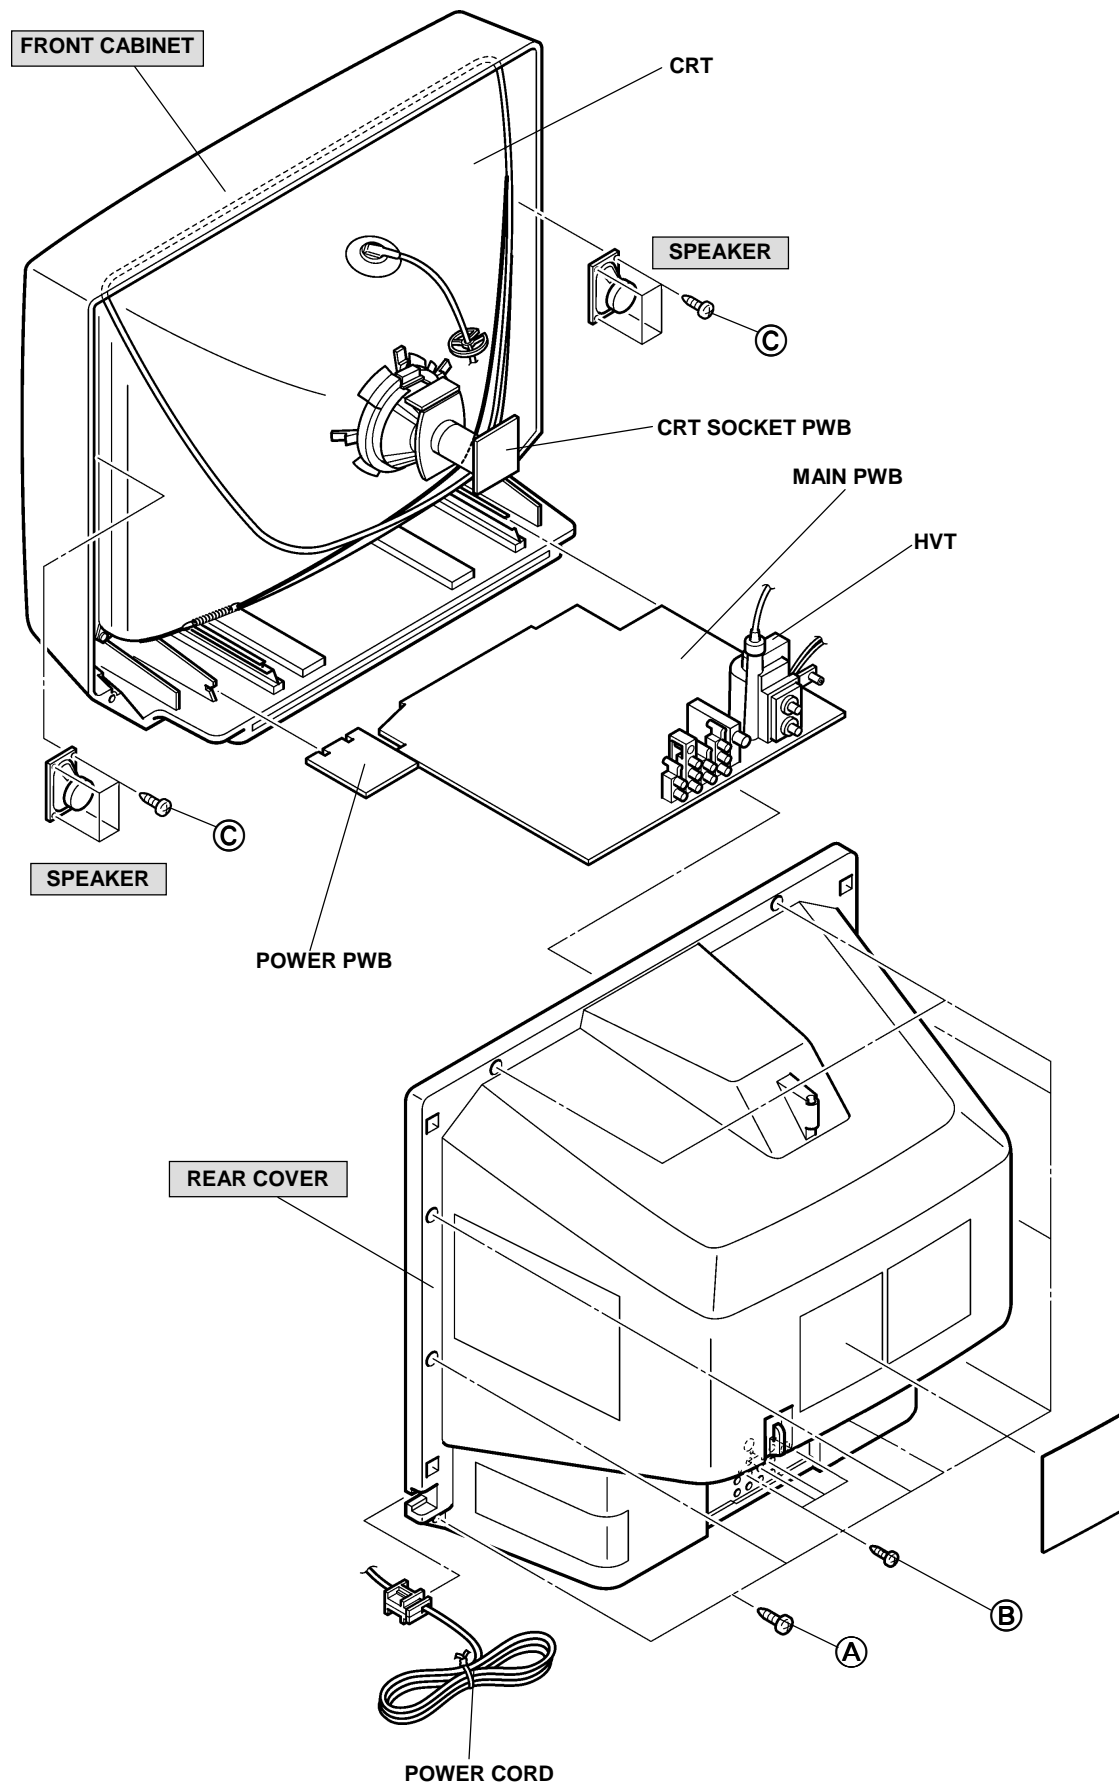

Fig.1
2. As shown in the Fig.1, remove the **9** screws marked **(A)**.
3. As shown in Fig.1, remove the **4** screws marked **(B)**.
1. As shown in Fig. 1, removing the screws marked **(C)**, then remove the speaker.
(1) Power off Switch off the power and disconnect the power cord from the outlet.
(2) Replace the memory IC Initial value must be entered into the new IC.
(3) Power on Connect the power cord to the outlet and switch on the power.
(4) System constant check and setting 1) Press SLEEP TIMER key and, while the indication of " SLEEP TIMER 0 MIN. " is being displayed, press DISPLAY key and VIDEO STATUS key on the remote control unit simultaneously. 2) The SERVICE MENU screen of Fig.1 is displayed. 3) While the SERVICE MENU is displayed, again simultaneously press the DISPLAY and VIDEO STATUS keys to display the Fig.2 SYSTEM CONSTANT screen. 4) Refer to the SYSTEM CONSTANT table and check the setting items. Where these differ, select the setting item with the UP/DOWN (▲/▼) key and adjust the setting with the LEFT/RIGHT (◀/▶) keys. 5) After adjusting, release the LEFT/RIGHT (◀/▶) key to store the setting value. 6) Press the EXIT key twice to return the normal screen.	 <p>Fig.1</p>
(5) Receive channel setting Refer to the OPERATING INSTRUCTIONS (USER'S GUIDE) and set the receive channels (Channels Preset) as described.
(7) SERVICE MENU setting Verify what to set in the SERVICE MENU, and set whatever is necessary.(Fig.1) Refer to the SERVICE ADJUSTMENT for setting.